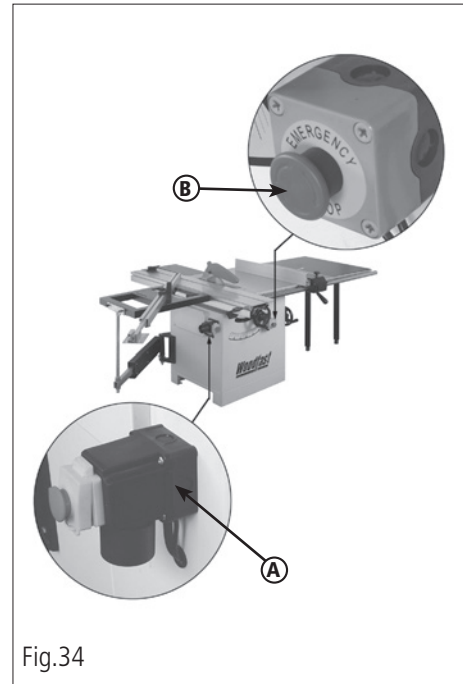

Fig.34
Push the green button (A, Fig.34) to position I.
Press the (B, Fig.34) button.
Push the red button (O) (A, Fig.34), or emergency stop (B, Fig.34).